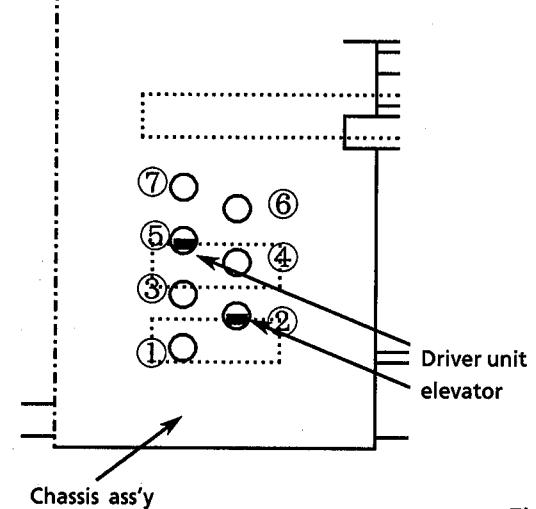
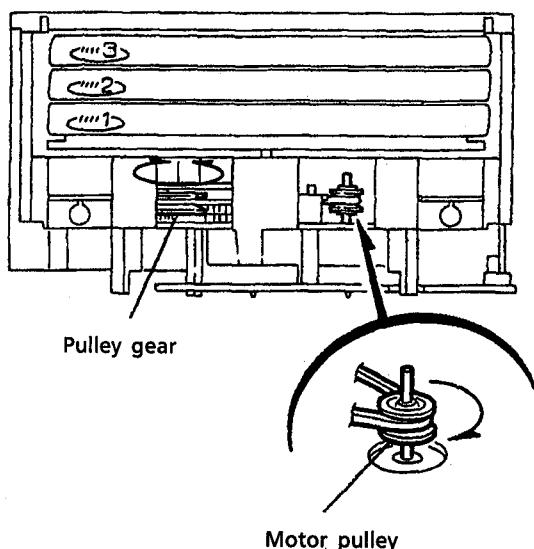

Fig. 33
Fig. 34
[NOTE] Set the elevator in correct position (Fig. 33) by rotating the pulley gear with finger if it is not positioned correctly (Fig. 34.).
12. Rotate the motor pulley clockwise with finger until the lifter unit's stopper is lowered from ©hole located on the CD tray ass'y. (See Fig. 34.)